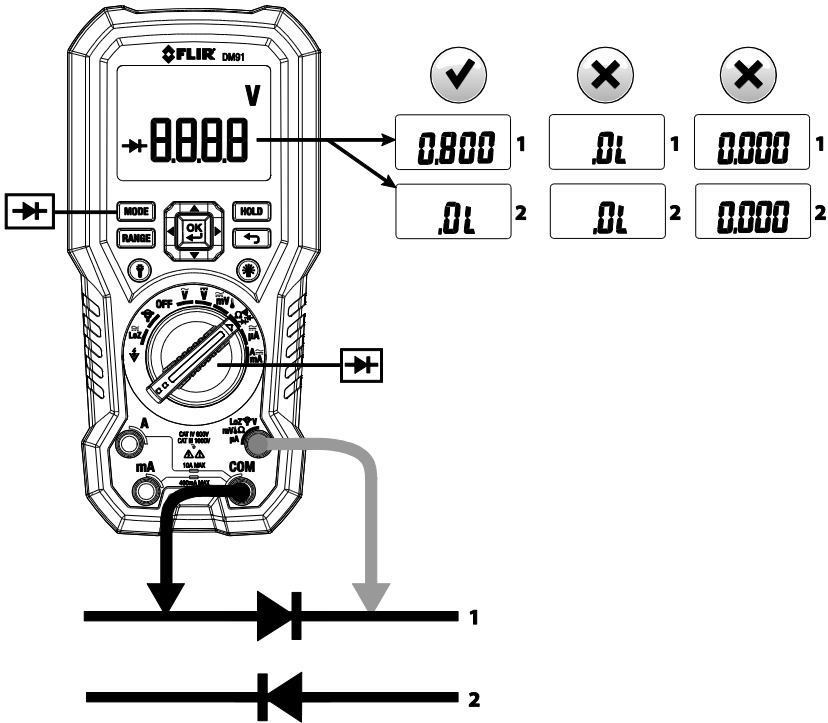

Fig. 5-3 Classic Diode Measurements
4. Touch the tips of the probe across the diode or semiconductor junction under test in one polarity (direction) and then in the opposite polarity as shown in Fig. 5-3.